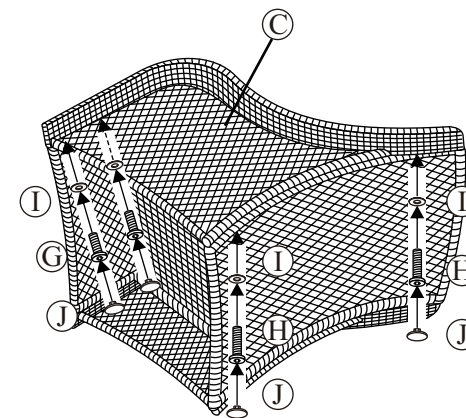
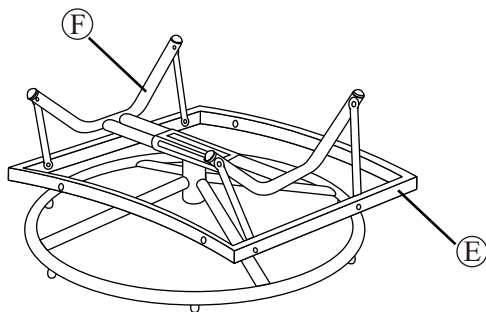
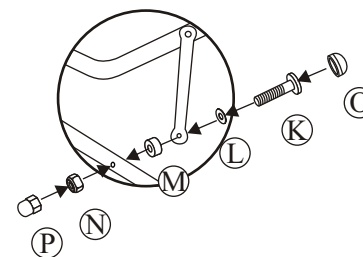

**Fig.1**
**Fig.2**
**Fig.3**
**Step 2:** Attach the back frame to right arm by using two 5/16"x40 mm bolts and washers as shown in **Fig.1**. Guide the bolts through holes in back frame, into pre-drilled holes in the right arm. **Hand tighten only.** Attach the seat frame to right arm and back frame by using four 5/16"x25 mm bolts and washers as shown in **Fig.2**. **Hand tighten only.** Attach the left arm to back and seat frame by using two 5/16"x25 mm bolts and two 1/4"x40 mm bolts and four washers as shown in **Fig.3**. **Hand tighten only.**